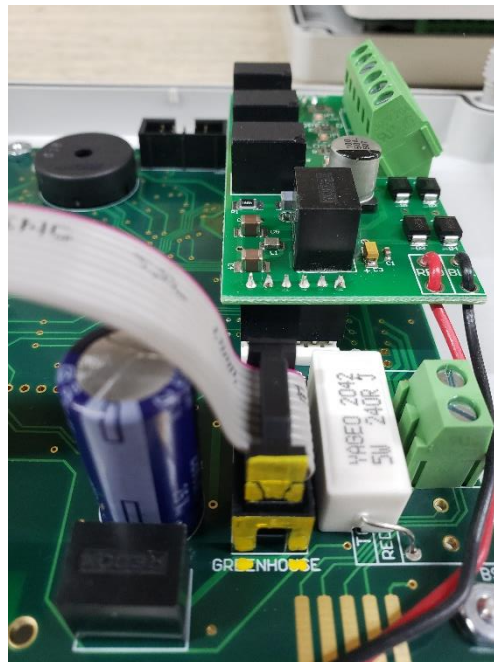

Figure 2: Ribbon cable plugged into top board.
Step 6: Plug ribbon cable in housed header marked in yellow on the lid. See **Figure 2** below.